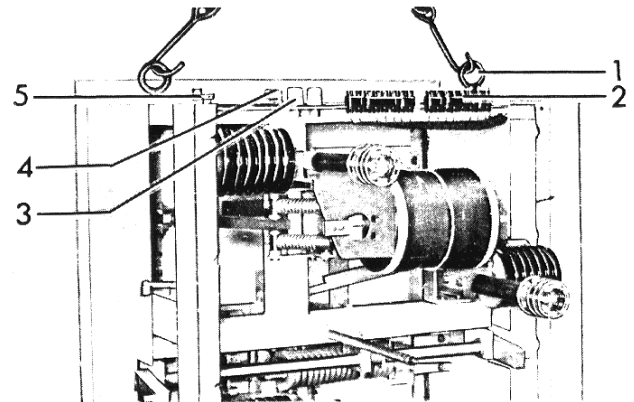

Figure 7. (8039300) Top of the Breaker
The ML-15 operating mechanism is of the stored energy type designed to give high speed closing and opening. The mechanism will operate on ac or dc voltage as indicated on the breaker nameplate. Closing and opening operations are controlled electrically by the metal-clad or remote relaying and mechanically by the manual close and trip buttons on the breaker. All secondary connections from the breaker to the metal-clad unit are made through the couplers (2) Fig. 7.
position of the breaker in the disconnect and test positions. Remote electrical position indication is accomplished by switches in the metal-clad actuated by a roller on the breaker (4) Fig. 7.
A crank (5) Fig. 7 can be provided to operate additional auxiliary switch contacts provided in the metal-clad unit.